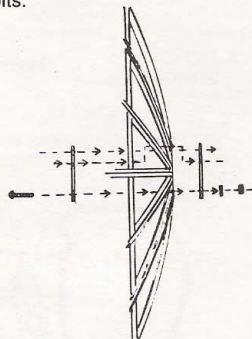

Figure 4.
STEP 4 You may stand the assembled reflector on edge for easy access to the center. Attach the center hub plates to the antenna by inserting four 5/16"x2" carriage bolts through the front plate, between the ribs, and through the rear plate on the back side of the reflector. Be sure to use 5/16" washers on the rear hub plate. See Figure 4. **SECURELY TIGHTEN THE CARRIAGE BOLTS WITH A WRENCH.**